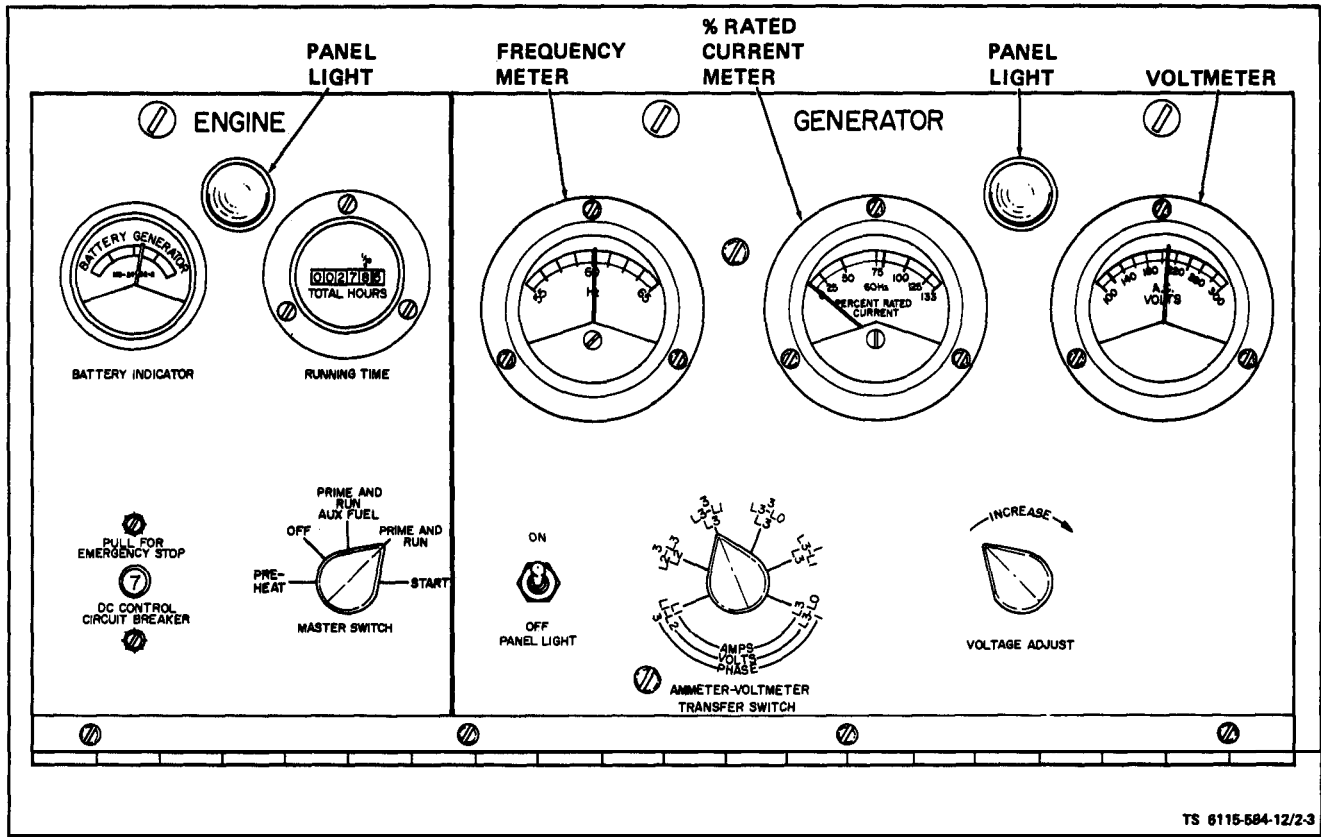

Figure 2-3. Starting Procedure
c. Table 2-1 describes the Generator Set controls and instruments (see figure 2-3).
2-4. STARTING GENERATOR SET (SEE FIGURE 2-3).
h. Place ammeter-voltmeter transfer switch in position to check percent rated current for either 1-phase 120 V. output, 1-phase 120/240V. output, or 3-phase 120/208 V. output. See table 2-1 and figure 2-3.
- d. Emergency Stop. To stop Generator Set in an emergency, pull out DC control circuit breaker (see figure 2-3).